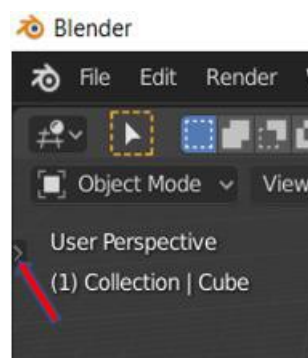

Figure 2
- If the Tools panel is not shown on the left side of your screen, hit **T** on your keyboard (shortcut key for the Tools panel) or left click on the arrow to expand the menu (Fig. 2).